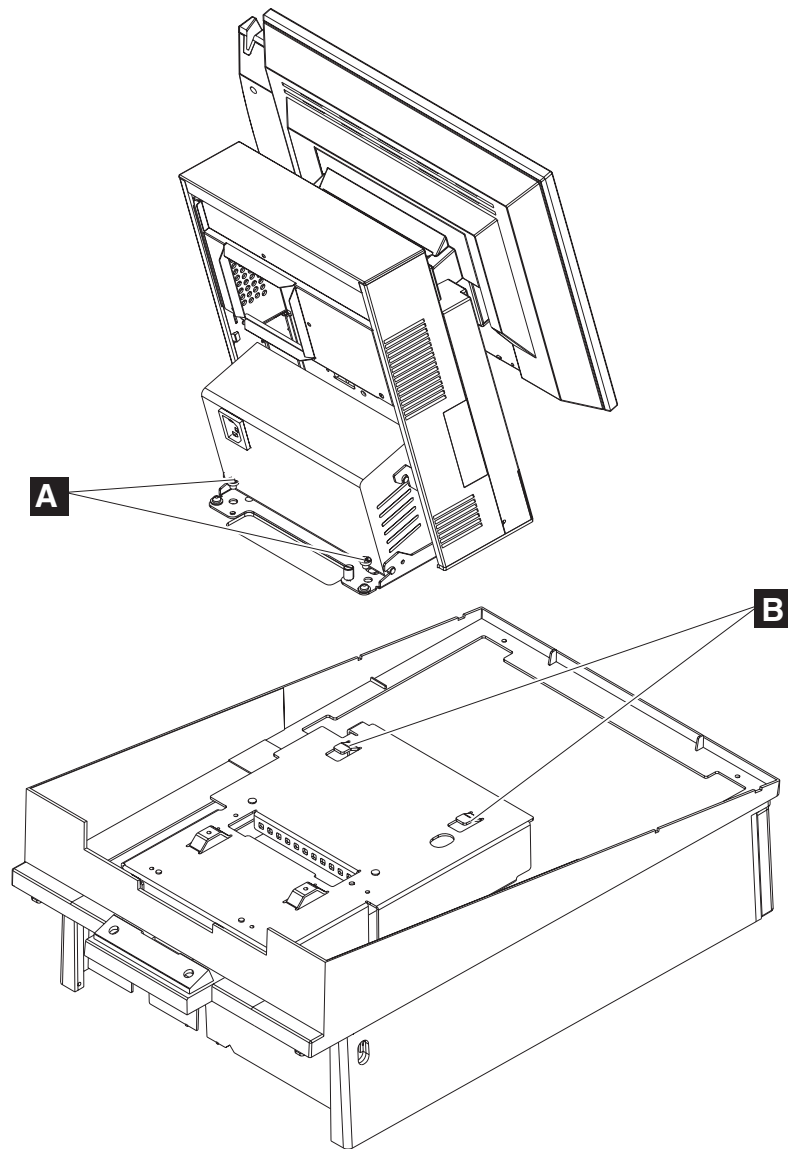

Figure 79. Removing the SurePOS 500 Models 5x3 and 544/564 from the integration tray
6. To remove the **SurePOS 500 Models 5x3 and 544/564** from the keyboard integration tray, see Figure 79 for callout locations and perform the following steps:
- c. Loosen the two screws **A** that are located through the SurePOS 500 Models 5x3 and 544/564 base bracket interlocking keyholes **B**, as shown in Figure 79.